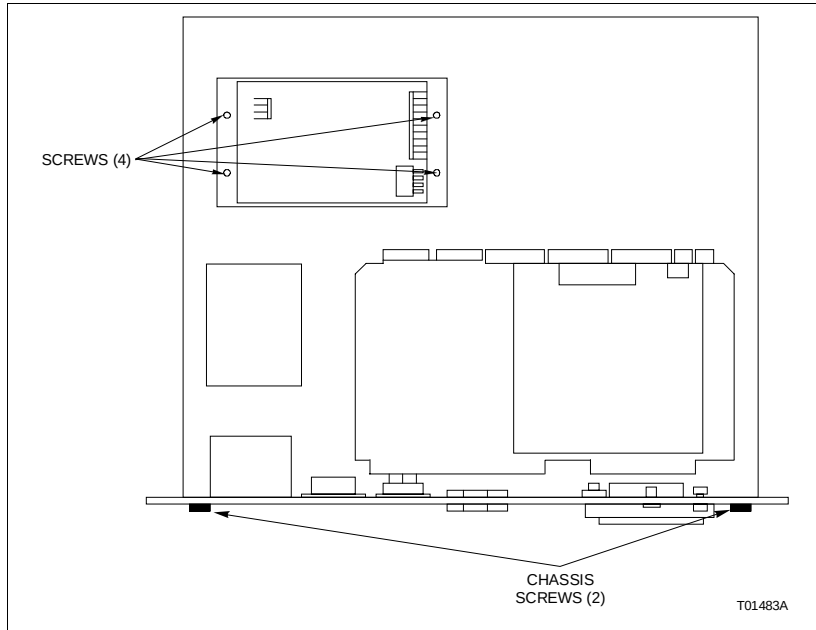

Figure PR24-6. Panel Mount Model Power Supply Removal
- ☐ 2. Remove the two chassis screws on the upper edge of the back panel and carefully slide the unit out far enough to access the power supply mounting screws. It is not necessary to remove the monitor (Fig. PR24-6).